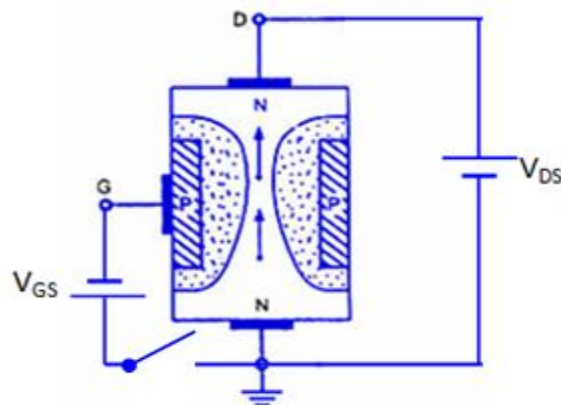

Fig. 4.4 Operation of JFET when $V_{GS}=0$
- When a voltage V_{DS} is applied between drain and source terminals and voltage on the gate is zero as shown in fig.4.4, then two pn junctions at the sides of the bar establish depletion layers.